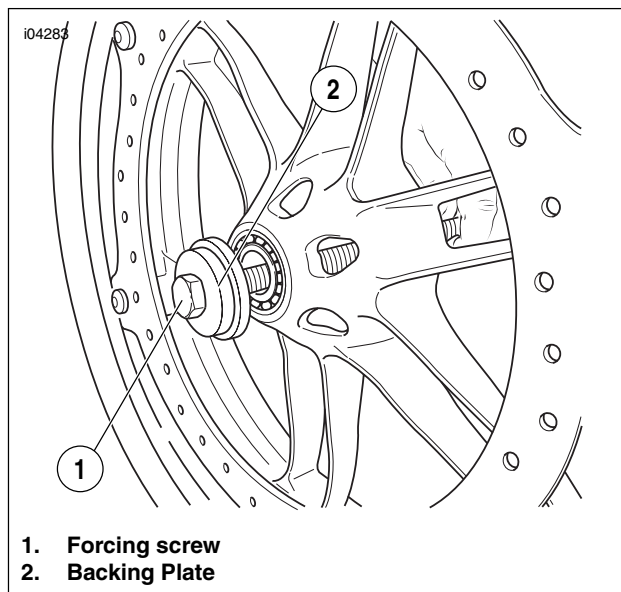

Figure 2-14. Insert Forcing Screw and Backing Plate
8. See Figure 2-14. Remove the BACKING PLATE (Part No. B-43993-11) from the long forcing screw. Reinstall the Backing Plate onto the forcing screw, with the smaller diameter toward the hex-head.